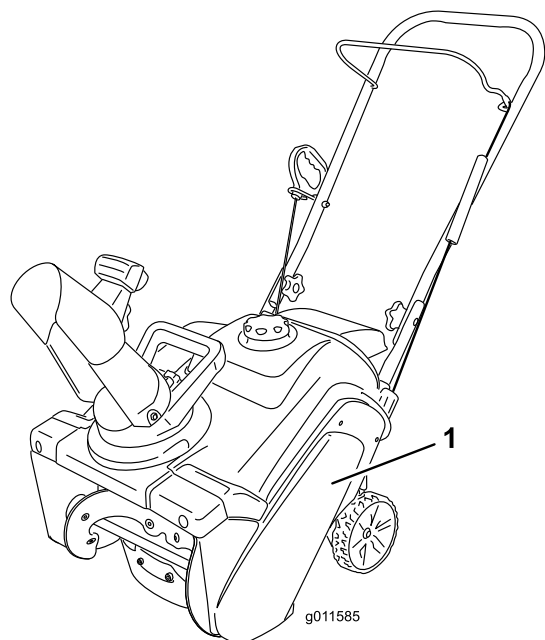

Figure 30
1. Remove the 4 bolts that hold the drive belt cover (Figure 30) in place.